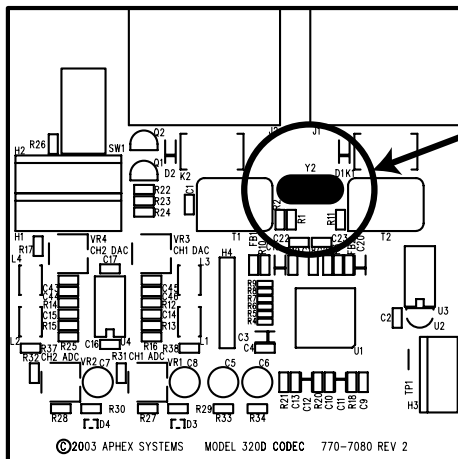

Fig 6.1
- Locate the digital audio interface board as shown in figure 6.1.